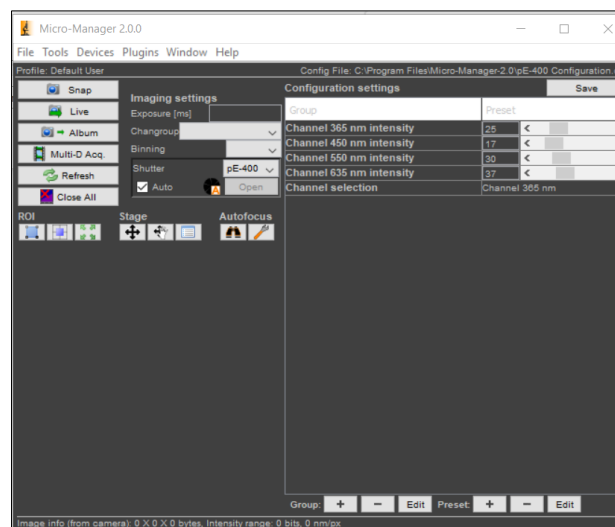

Figure 18: Main screen shows channel selection and intensity sliders for pE-400max live control
9. Repeat steps 6-7 for all remaining channels. The main screen will then look like Figure 18 and channel selection and intensity can now be controlled in real-time.